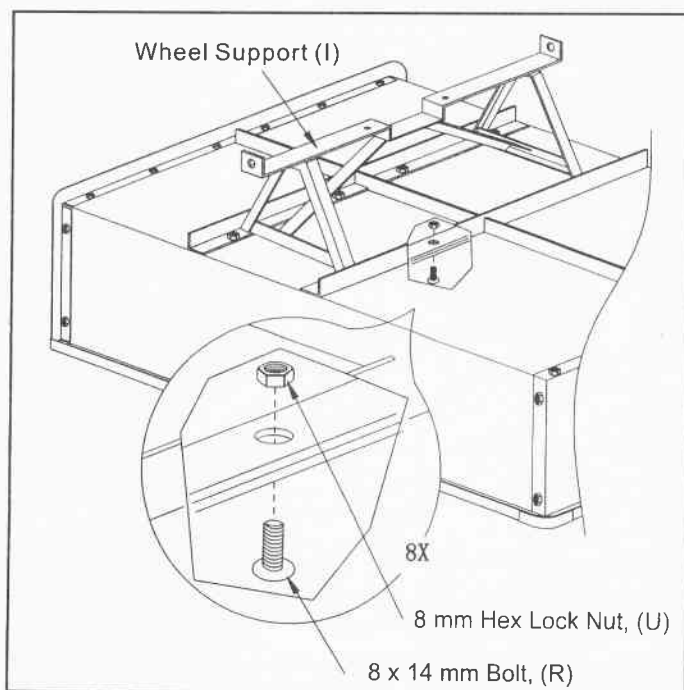

FIGURE 6
10. Assemble the wheel support (I) to the cart using eight 8 x 14 mm bolts (R) and 8 mm hex lock nuts (U) as shown in figure 6. Heads of screws go to the inside of cart. Tighten.